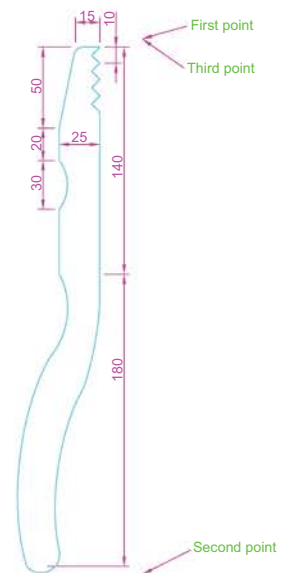

Fig. 11.16 First example – 3D Mirror – outline of object to be mirrored
- Working on a layer colour green, construct the outline Fig. 11.16.